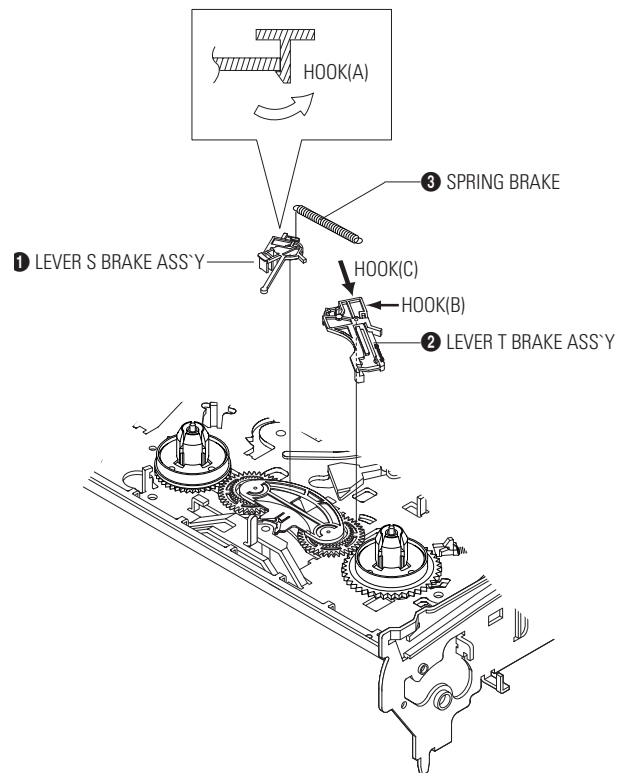

Fig. 3-17 Lever Brake S, T Ass'y Removal
- 1) Remove the Lever Brake S Ass'y (Refer to Fig 3-17).
- 2) Remove the Spring Tension Lever ❶.
- 4) Lift the Lever Tension Ass'y ❷ & Band brake Ass'y ❸.
- 1) Release the Hook [A] and the Hook [B], [C] in the direction of arrow as shown in Fig 3-17.
- 2) Lift the Lever S, T Brake Ass'y ❶, ❷ with spring brake ❸.